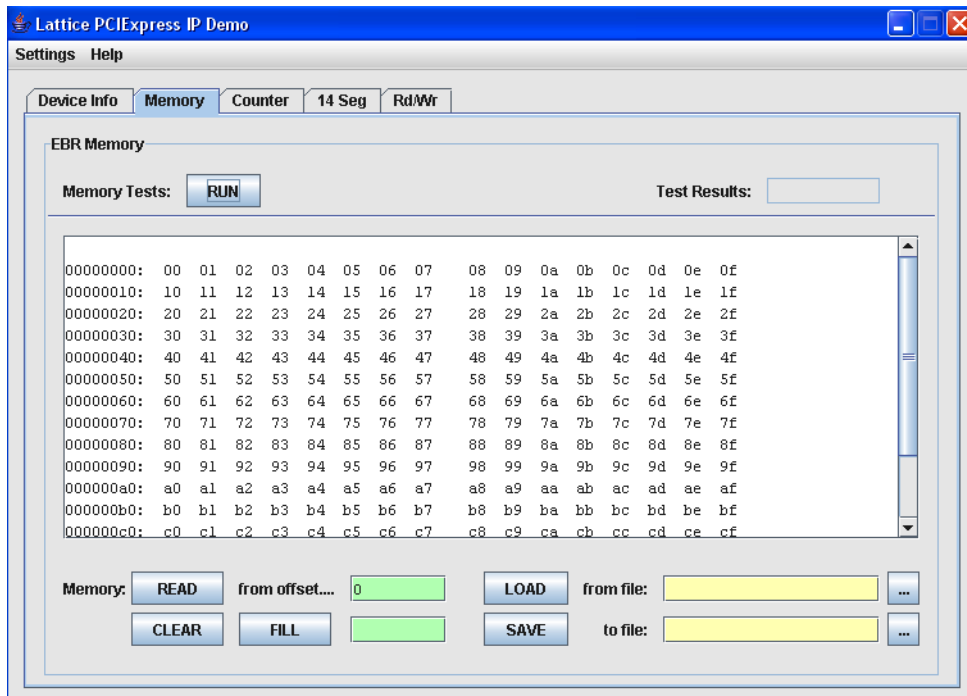

Figure 6.3. PCI Express Basic Demo Memory Page
- Click on the **Memory** tab to open the Memory page. The Memory tab has various memory access tests that can be run to show that the IP is accessible from host software via the PCI Express bus. See Figure 6.3. The page contains text boxes for entering data to be sent to device registers in the FPGA design. These text boxes are color coded to indicate the data format they accept. See Table 6.3 for details about these codes.